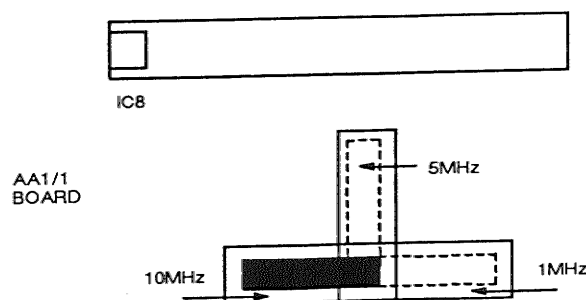

Fig. 5-13 External frequency standard adjustment (1, 5 or 10 MHz)
11. One of three external standard frequencies may be used providing a link on AA1/1 board is correctly positioned. Fig. 5-13 shows the position of the three link positions for 1, 5 or 10 MHz. Withdraw the link manually from the board (normally selected to 10 MHz) and reposition as required. On completion apply power and using 2ND FUNCT 10 record the current selection and STORE. Further check by selecting 2ND FUNCT 1 'Status' mode that the correct reading is evident in the modulation window.